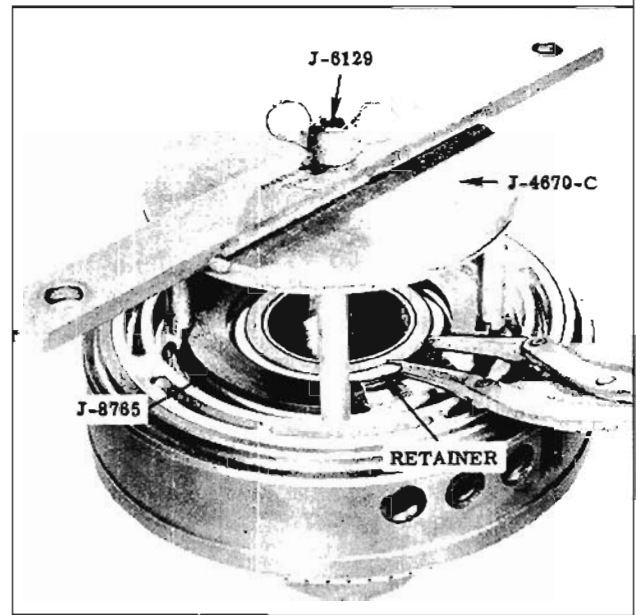

Fig. 6-60 Removing Neutral Clutch Retainer
7. Using Tools J-8765, J-6129, and J-4670-C, remove neutral clutch release spring retainer snap ring. (Fig. 6-60) Remove tools.
5. Using Tools J-8765, J-6129, and J-4670-C, compress neutral clutch release springs and install retainer snap ring. (Fig. 6-60) Remove tools.